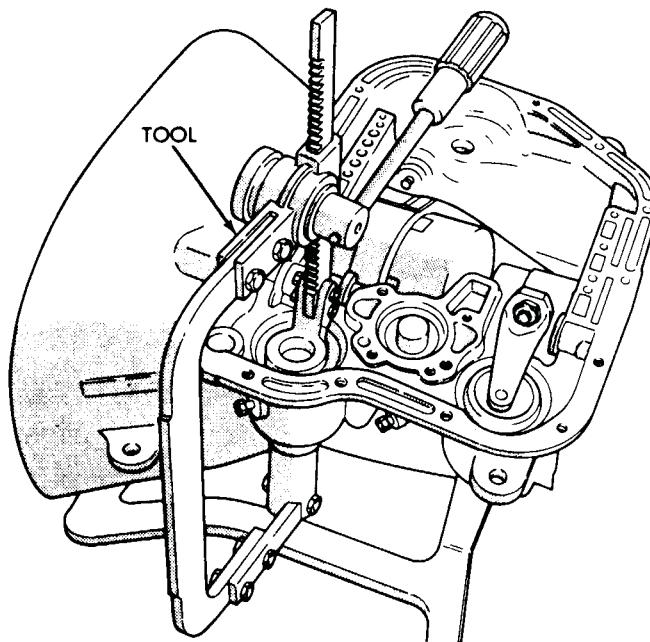

Fig. 7—Compress Kickdown Servo Spring
- (1) Compress kickdown servo spring by using engine valve spring compressor Tool C-3422A, remove snap ring (Fig. 7).
- (2) Remove rod guide, spring and piston assembly from the case. Be careful not to damage piston rod or guide during removal.
- (3) Withdraw piston from the transmission case.